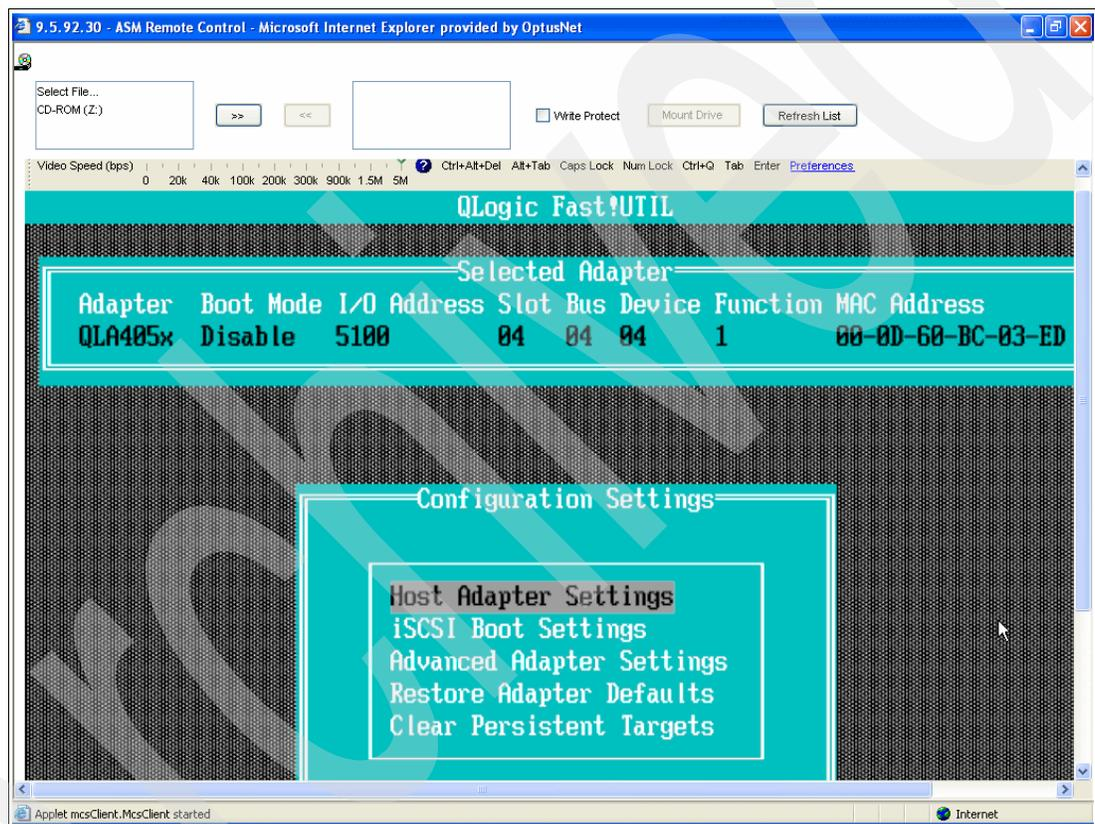

Figure 9-58 The Configuration Settings menu
7. The Configuration Settings menu shown in Figure 9-58 appears. You navigate your way around this utility by using the Up and Down arrow keys to select a menu option, then press Enter. To back up, press the Escape key.